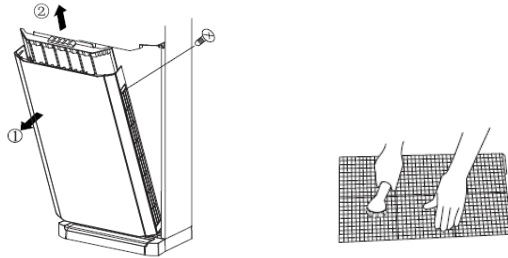

Fig. 10
As shown in Fig. 10, take out the decorative strip at position ①, and unscrew the screw. After opening the glass panel and unscrew the screws fixing the air filter. At last pull out the air filter along the arrow direction.